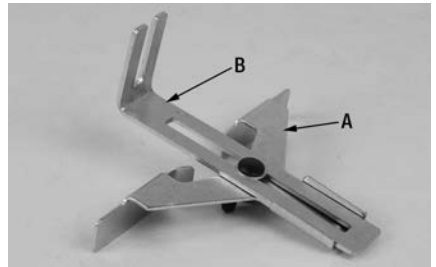

Figure 7
Before installation, the straight guide must be set up as shown in Fig.7. Attach the straight guide plate (A) Fig.7 to the straight guide (B) with the carriage bolt, washer, wing nut as shown.